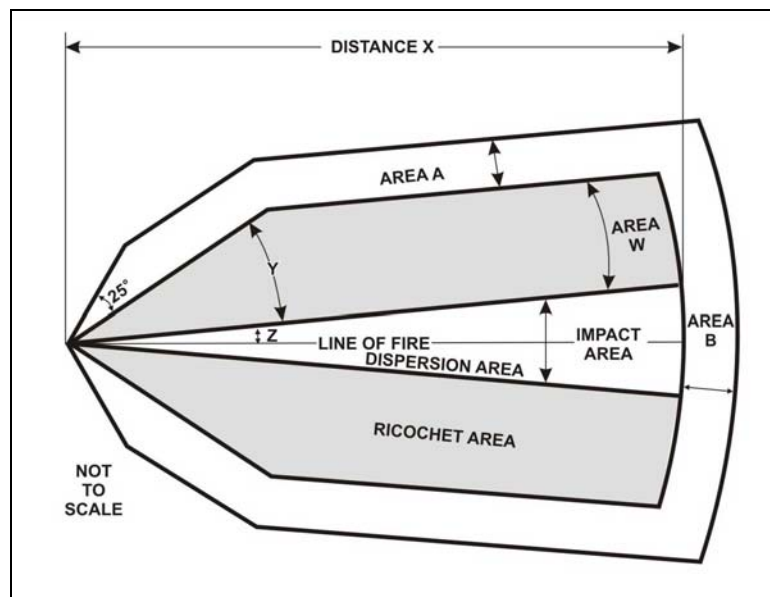

Figure 5-5. Surface-danger-area diagram for M792 ammunition.
c. **Surface Danger-Area Diagrams.** Bradley units establishing or modifying ranges must, before firing starts, provide the range control officer with a safety overlay showing the modifications. Specifically, the overlay must show the surface danger area, to include range boundaries and range limit markers for firing positions. The overlay must also show any other features affected by the modifications and relevant to safety in any way. To prepare the overlay, the unit uses the ballistic firing tables FT 25-A-2 (Table 5-1) and FT 7.62-A-2. These tables are useful because they state the range, maximum ordinates, and superelevation values for each ammunition type within that caliber (Figures 5-5 and 5-6, page 5-16).
(1) When diagrams of surface danger areas on established ranges provide only unrealistic conditions, or when they use available terrain poorly, the unit should modify the diagrams. AR 385-63 provides restrictions and precautions for diagrams of surface danger areas. When engaging ground targets, the unit may reduce Distance X (maximum range) to 15 degrees elevation, provided they maintain the gun's firing elevation at less than or equal to 15 degrees (Tables 5-2 through 5-7, pages 5-18 through 5-20). If they cannot control the weapon at or under 15 degrees, such as could happen when firing while moving over rough terrain with inoperative stabilization, they will use the maximum range (Distance X). At 15 degrees elevation, range equals the greatest distance the projectile can travel when fired at elevations at or under 15 degrees. The unit derives this value by evaluating ricochet and ballistic firing table data.
(2) The M2A2 ODS, M3A2 ODS, M2A3, and M3A3 vehicles have eye-safe laser range finders. Using other (non-eye-safe) laser range finders requires that the unit designate an additional buffer area, Area C (AR 385-63, Chapter 19). Every object the laser beam strikes reflects energy. In most cases, this energy diffuses and presents no hazard. The crew removes all mirrors, plastic, glass, or other flat mirror-like objects with vertical or near-vertical surfaces, that is, any reflective objects that could reflect the laser beam and cause injury, from the target area. If this proves impractical, they can cover the surfaces with lusterless paint or with a nonreflecting material such cloth or cardboard.